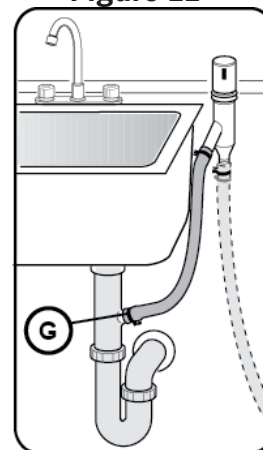

Figure 13
3. To the under sink dishwasher drain connection through an air gap, as shown in Figure 13.